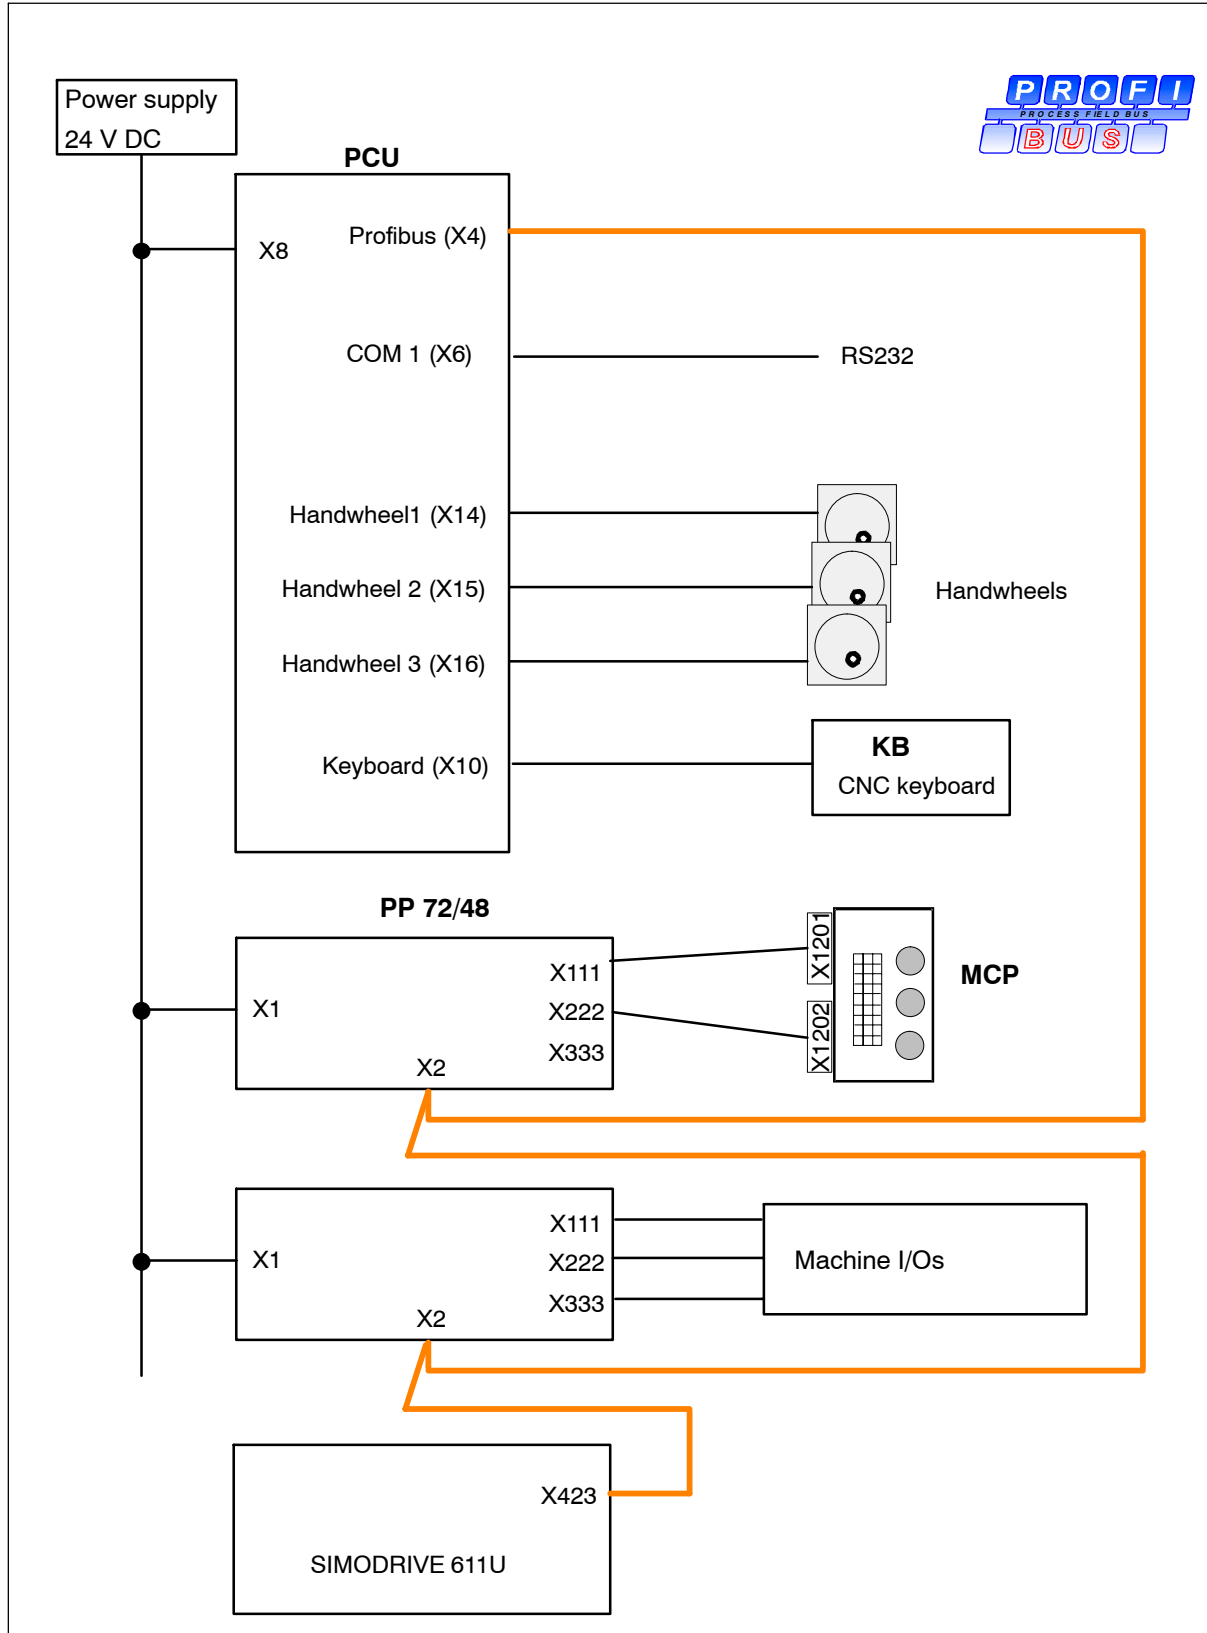

Fig. 2-13 Connection Diagram of the SINUMERIK 802D
The individual components are connected as shown in the Connection Diagram in Fig. 2-13. For the cable designations and connector types, please refer to the SINUMERIK 802D Catalog.
1. Connect the lines to the components as shown in Fig. 2-13.
To connect the **machine control panel** to the PP 72/48 (X111, X222), use ribbon cable (see Fig. 2-13).